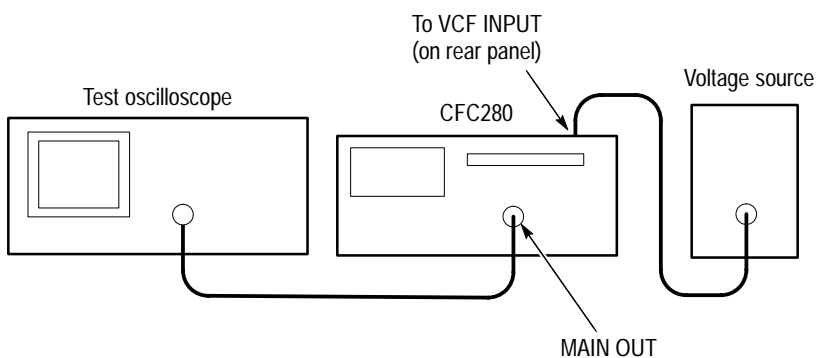

Figure 6: External Sweep Test Setup
1. Connect the **MAIN OUT** connector on the CFG280 Function Generator to the oscilloscope input connector (see Figure 6).
3. Connect an external voltage signal to the **VCF INPUT** on the rear panel of the instrument (see Figure 6).